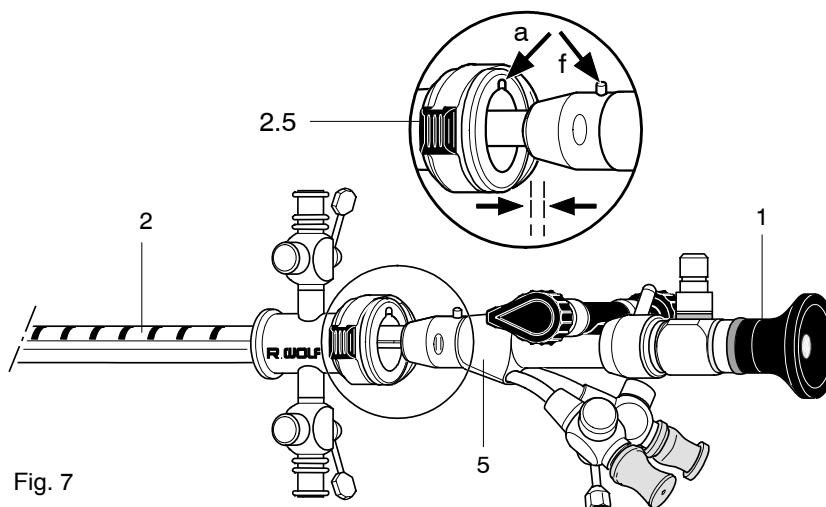

Fig. 7
- ◇ Insert insert (5) with endoscope (1) in place in sheath (2) in such a way that groove (a) and pin (f) are aligned, and push together until the connection is locked automatically. (Fig. 7)